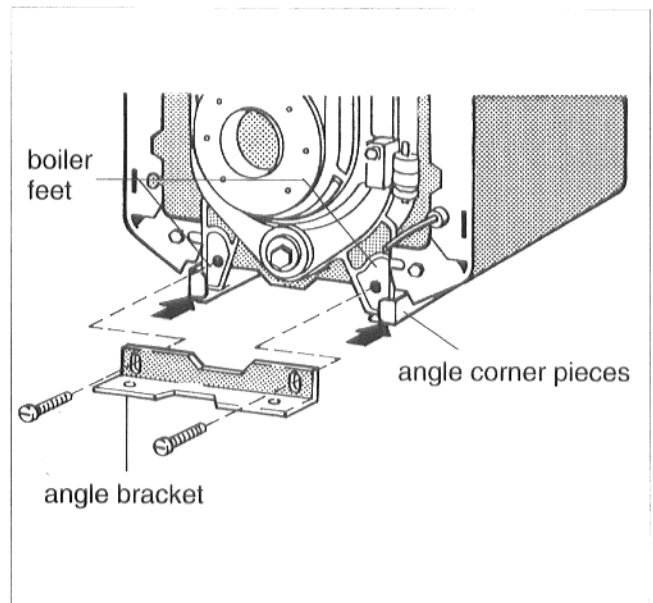

Fig. 5
- Loosely fasten the angle bracket to the boiler feet using the long bolts provided (Fig. 5). The bracket fits inside the angle corner pieces of the jacket.
- Secure the angle bracket to the front holes in the top of the LT domestic water heater (Fig. 5).